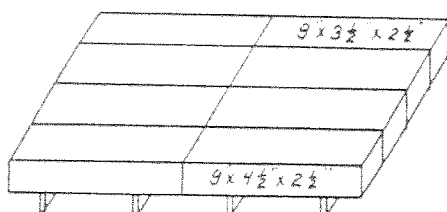

FIG. 5
3. Center bottom bricks (Fig. 5) on top of piers and layer of insulation. Center carefully to be sure side clearance between bottom brick and furnace burner side wall are equal. Dip all adjoining surfaces in mortar as furnace is assembled.